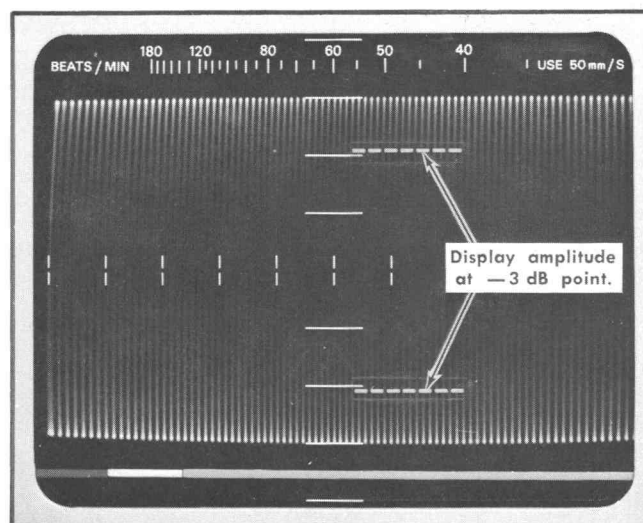

Fig. 6-14. Typical CRT display when checking high frequency—3 dB point.
- With the display centered, slowly increase the sine-wave frequency until the display amplitude decreases to 4.2 centimeters. See Fig. 6-14.